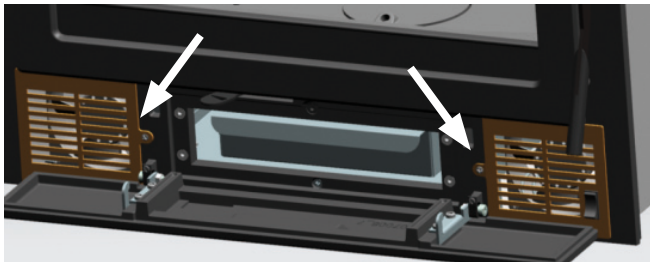

FIG. 1
1. Open the door of the ash pan and remove the fan grilles, which are fixed with two screws (Fig. 1)